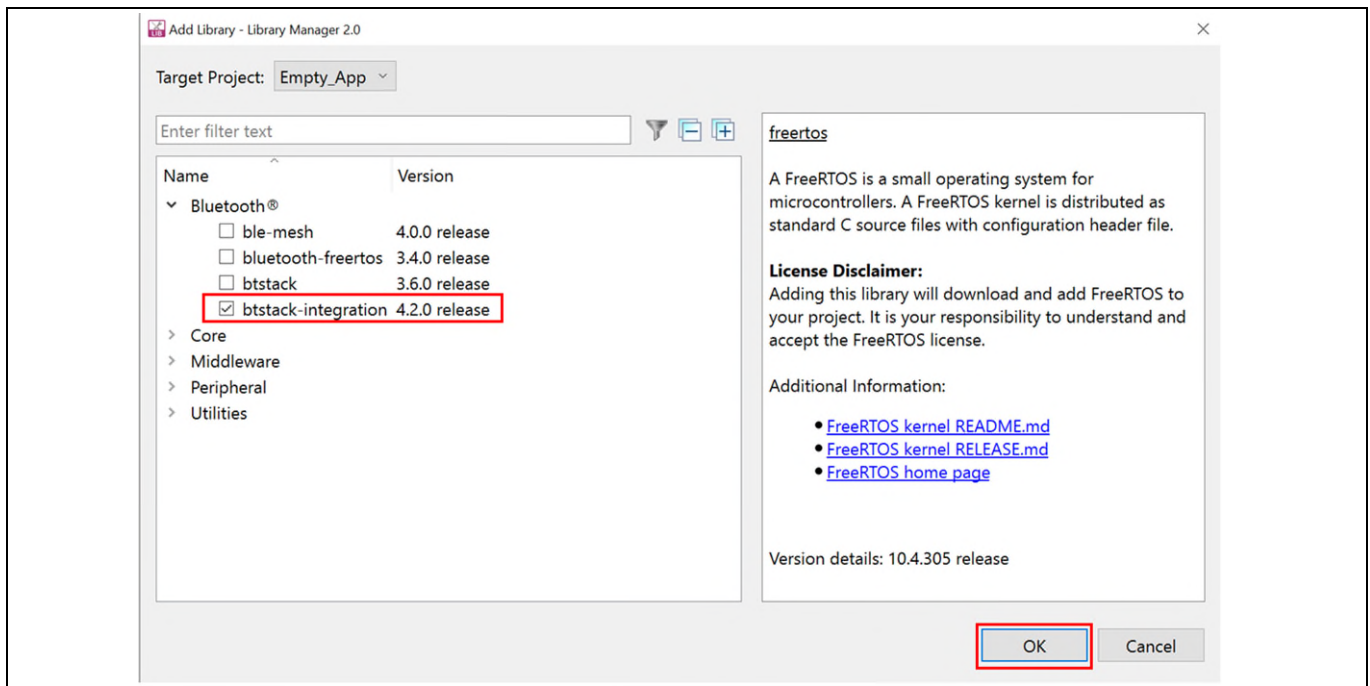

Figure 16 Add btstack library and btstack-integration middleware
- Next, you add the AIROC™ BTSTACK which is a software implementation of Bluetooth® core 5.2 Host protocol stack. AIROC™ BTSTACK requires a porting layer specific to the device it is running on. Therefore, you will add the btstack integration porting layer which sets up the physical transport required for HCI traffic, memory, threads, and other OS constructs required by the stack library. Click on **Add Library** and select **Bluetooth® > btstack-integration** (see Figure 16 for this option). Note that selecting btstack-integration will in turn select the required version of **btstack**. We do not have to explicitly select btstack unless a specific version is required. Along with btstack, btstack-integration also adds dependency libraries **abstraction-rtos** and **freertos**.